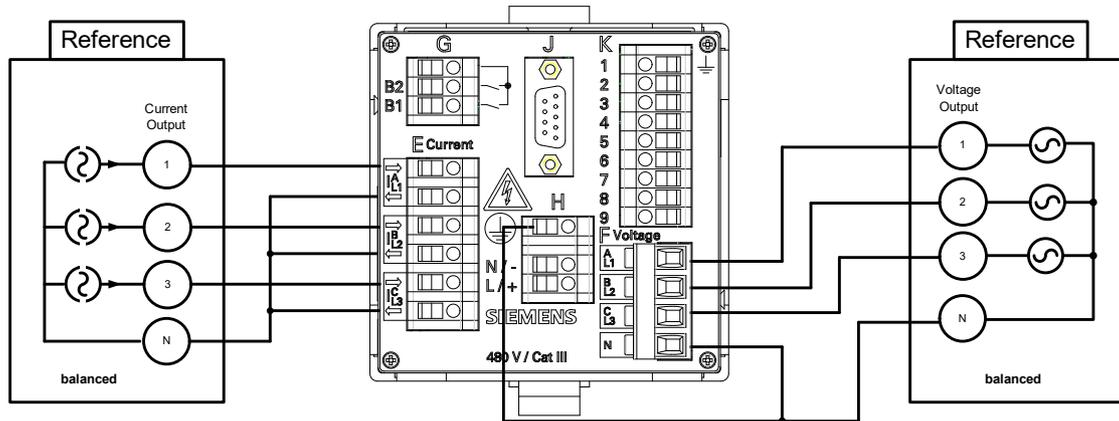

Figure 11-11 Measurement Setup for Phase Angle
- ◇ Set up the measurement as shown in Figure 11-11.